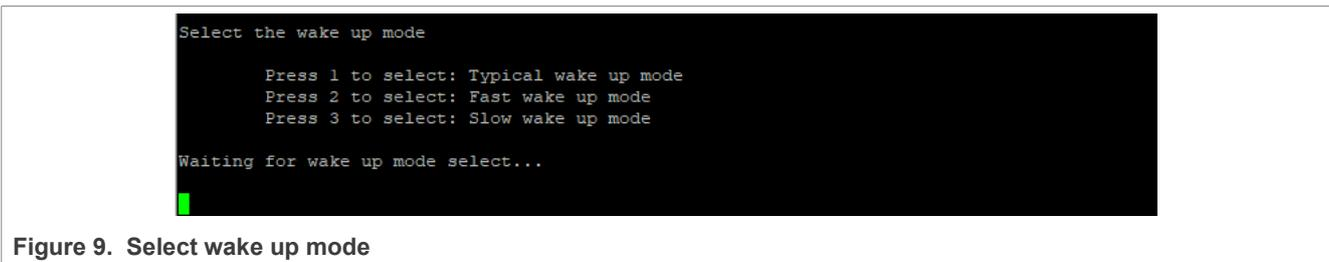

Figure 9. Select wake up mode
3. Follow the prompts in Figure 9 and enter one from 1 to 3 to select the wake up mode.